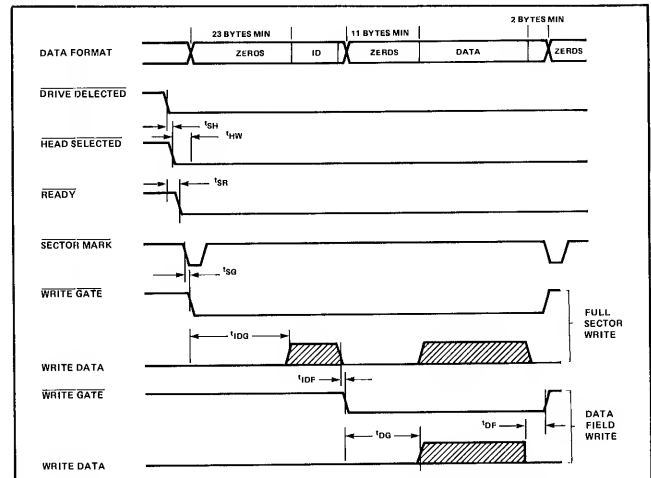

Figure 3-38. Record Writing Timing
7. **Record Writing** Figure 3-38 shows the timing requirement for writing full sectors (ID and data fields) and also writing data fields only. The AC characteristics are listed in Table 3-14.